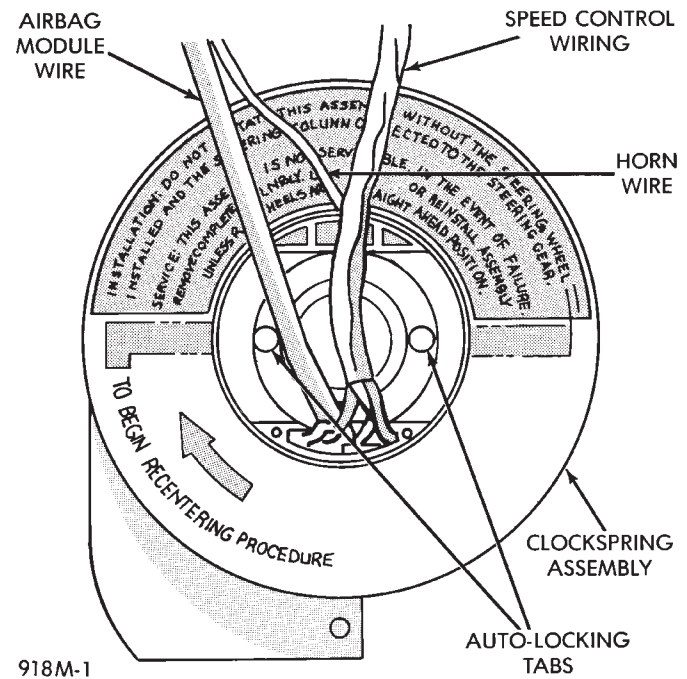

Fig. 4 Clockspring (Auto-Locking)
- (1) Place the front wheels in the straight ahead position before starting the procedure.
- (2) Depress the 2 locking tabs to disengage the locking mechanism (Fig. 4).
- (3) Keeping the mechanism disengaged, rotate the clockspring rotor in the **CLOCKWISE DIRECTION** to the end of the travel. Do not apply excessive torque.
- (4) From the end of travel, rotate the rotor 2 1/2 full turns in the **COUNTER CLOCKWISE** direction. The horn wire should end up at the top and the squib wire at the bottom (Fig. 4).
- (5) Install the steering wheel and air bag module, refer to Steering Wheel Installation.